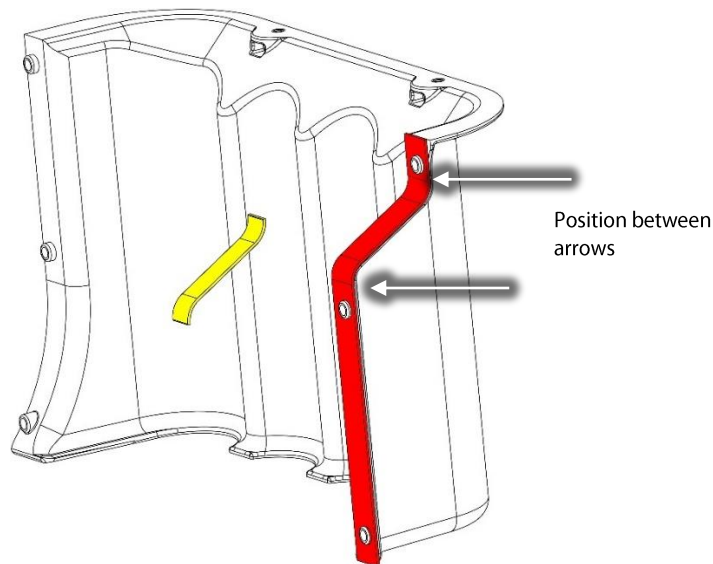
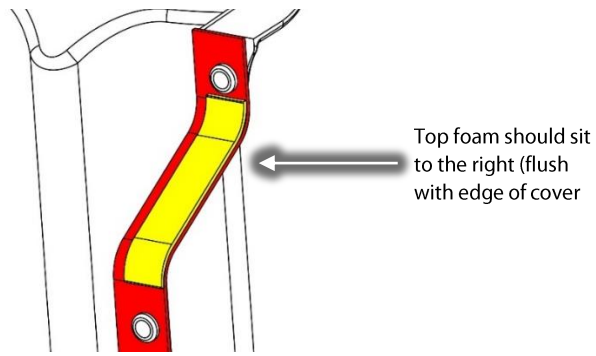

Figure 10 – Capacitor Cover Left Side Short Foam Installation
Figure 11 – Capacitor Cover Left Side Short Foam Installed
- Remove a small portion of the adhesive backing at the end and install the Main Housing Sealing Foam, Capacitor Side. Position as indicated in Figure 10 (Capacitor Cover Left Side Short Foam Installation) and Figure 11 (Capacitor Cover Left Side Short Foam Installed).
10. The sealing foam should be positioned as illustrated in Figure 11 (Capacitor Cover Left Side Short Foam Installed).